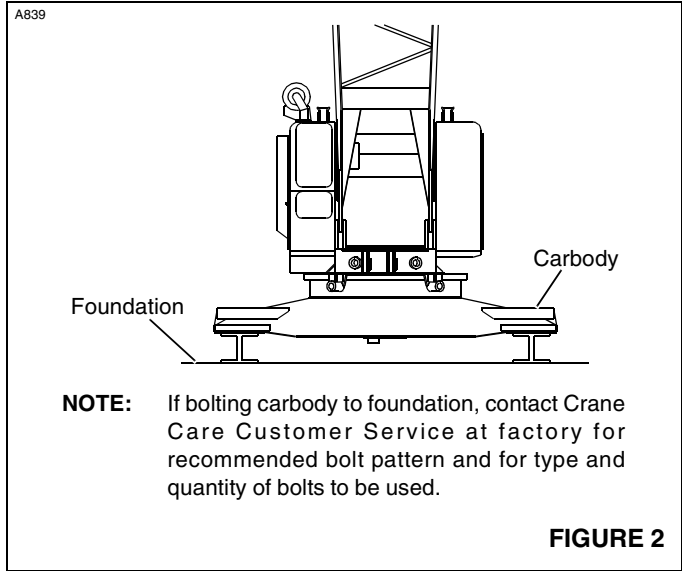

FIGURE 2
2. Crane upperworks mounted on a carbody (crawlers removed) which is securely fastened to foundation (Figure 2).